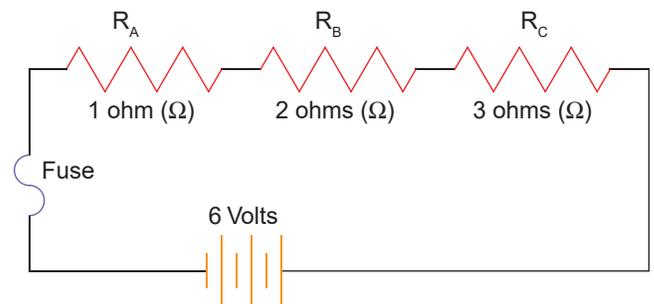

Figure 2-10. A simple series circuit. It has three resistors connected to form a single loop.
A series circuit has only one loop or path. When devices such as resistors are in series, they are placed one after another so that the current flows through all of them in succession. The three resistors illustrated in **Figure 2-10** are in series arrangement.
- Total resistance (R_T) is the sum of the individual resistances. Therefore, the total resistance of the series circuit in Figure 2-10 is:
- The current (amperage) of a series circuit is the same throughout. Thus, the total current (I_T) of the circuit is the same as the current running through each load. By applying Ohm's law, we can find the current in Figure 2-10: